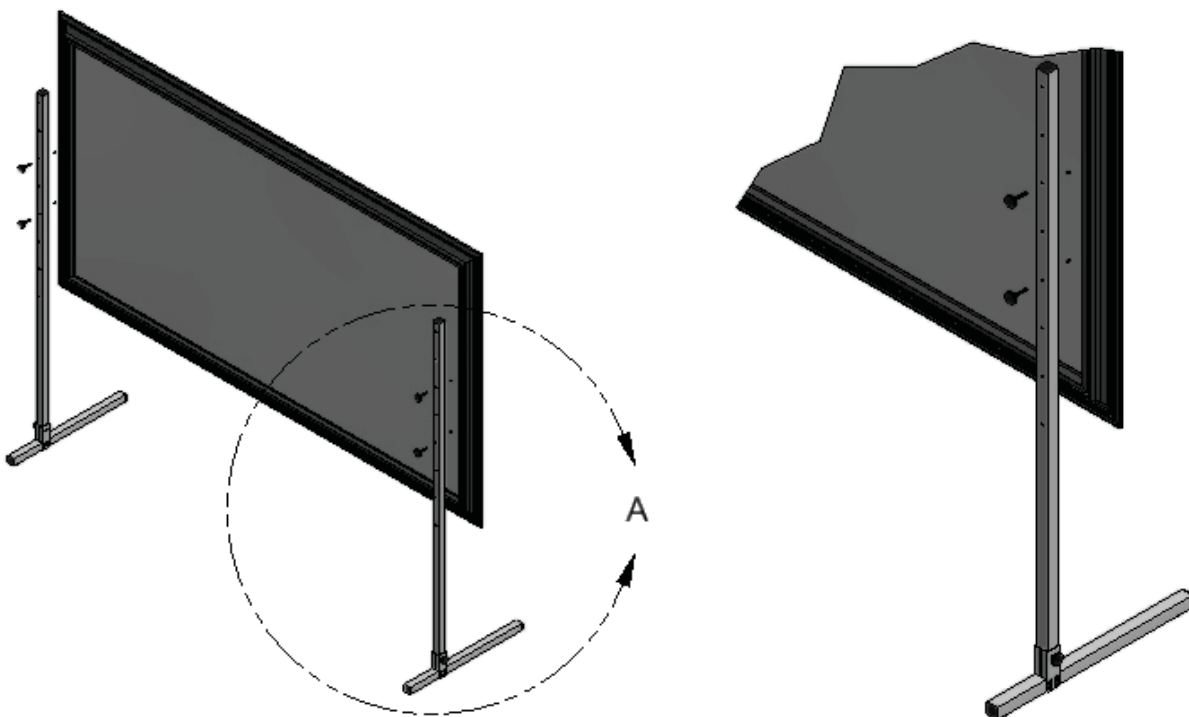

Figure 10: Attaching T-stand knobs, standard screen attachment
- 1) Use the T-stand knobs provided to first attach the vertical members to each base, and then to attach the finished screen to the T-stands. The through holes on each vertical member should run parallel to the base (refer to Figure 10)